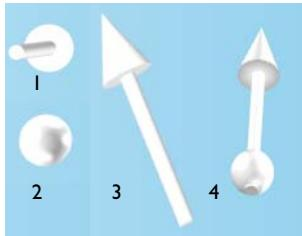

Figure 5-11: The light markers for each type of light source: (1) Headlight, (2) Point light, (3) Directional light, and (4) Spotlight.
- By default, the **Show light marker** is selected. The light marker is associated to the type of light applied to the object. See Figure 5-11 for examples. Click to clear the check box as required and remove the marker from the **Graphics** window.